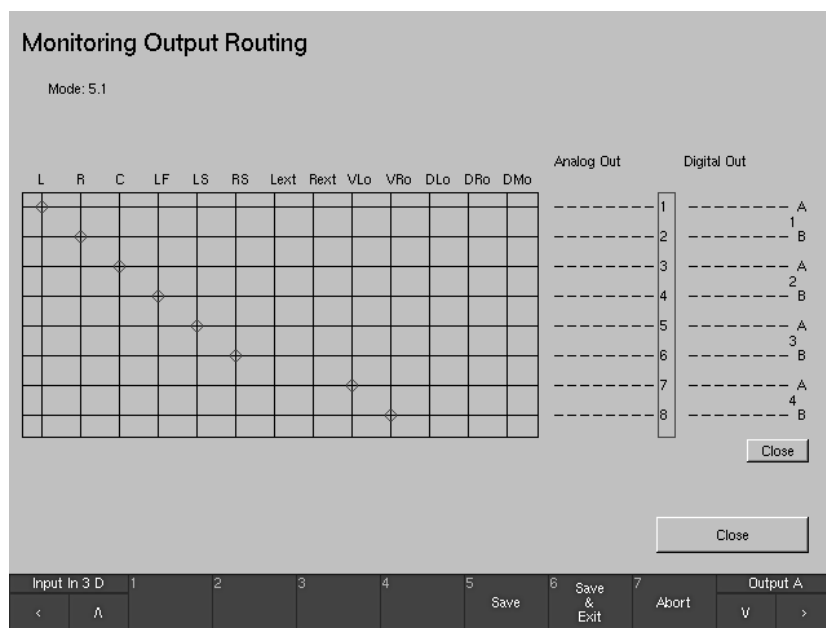

Fig. 4-14: Channel allocation matrix for the Monitoring Output Routing (Example: 5.1 format)
• **Monitoring Output Routing** (see Fig. 4-14)
This button opens a new menu page with the routing matrix in which the internal logical channels L, R and so on can be assigned to the physical outputs of the Monitoring analog Out (see Chapter 2.3.13) and Monitoring digital Out (see Chapter 2.3.14) connections (see Fig. 4-14). Available are in: